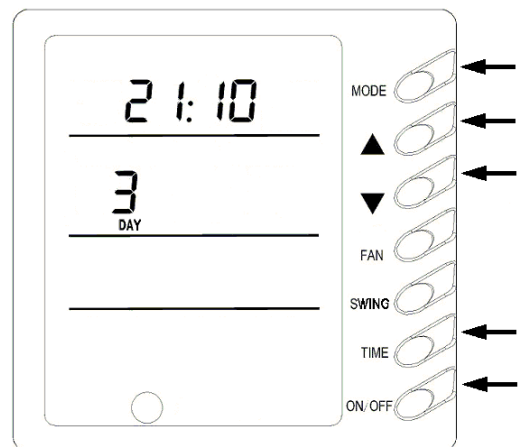

Fig.14
- ❖ In time setting mode press MODE button to select any desired setting object: Week (1-7), min. part (0-59) or hour part (0-23), and then press▲ or ▼ button to adjust this object, which is fixed by pressing TIMER button or can be canceled by pressing Timer again. During fixing setting there must be blinking characters. During canceling setting, if there are also blinking characters, setting can be continuous till quit It by pressing ON/OFF button.(Fig.14)